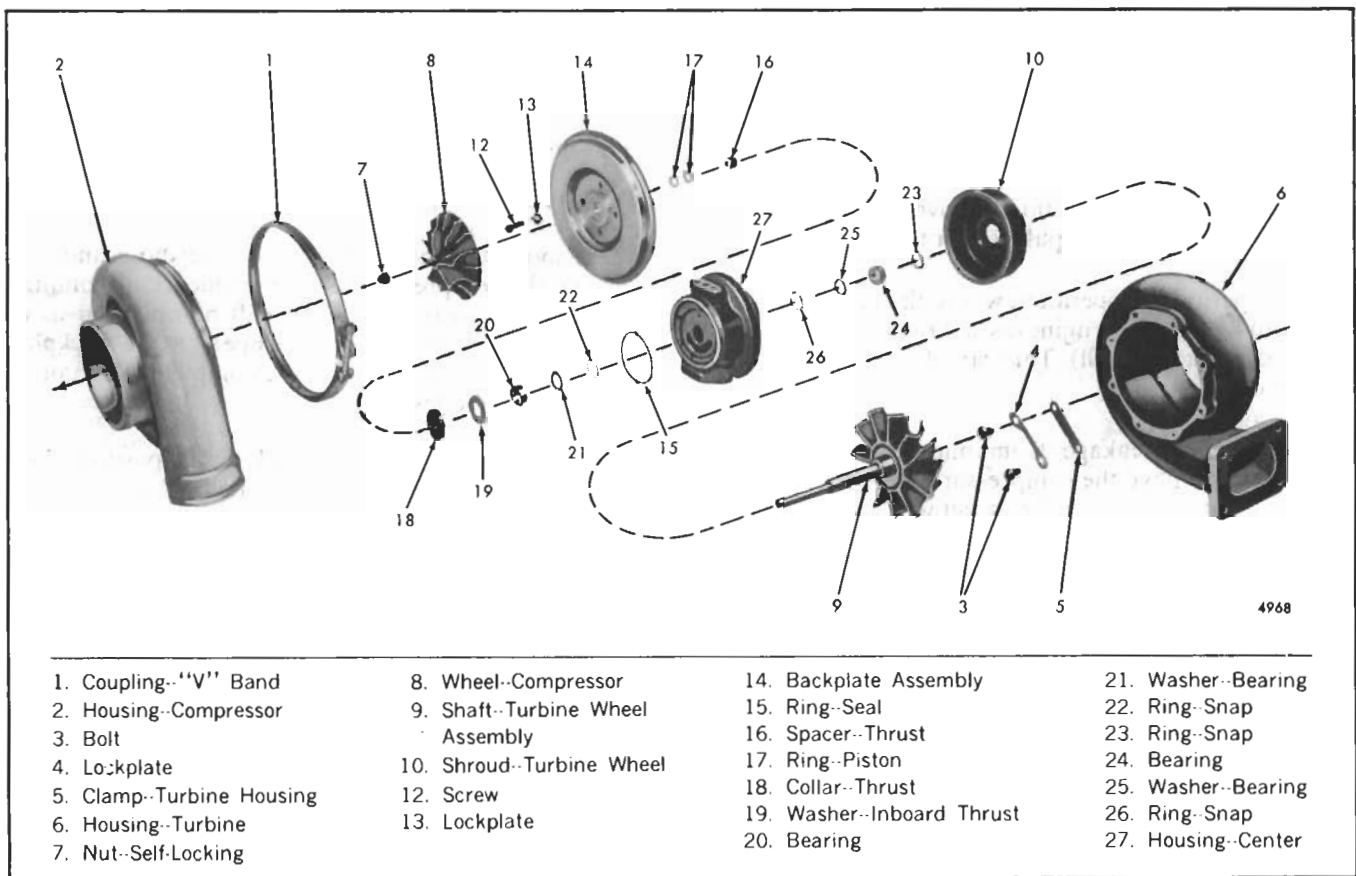
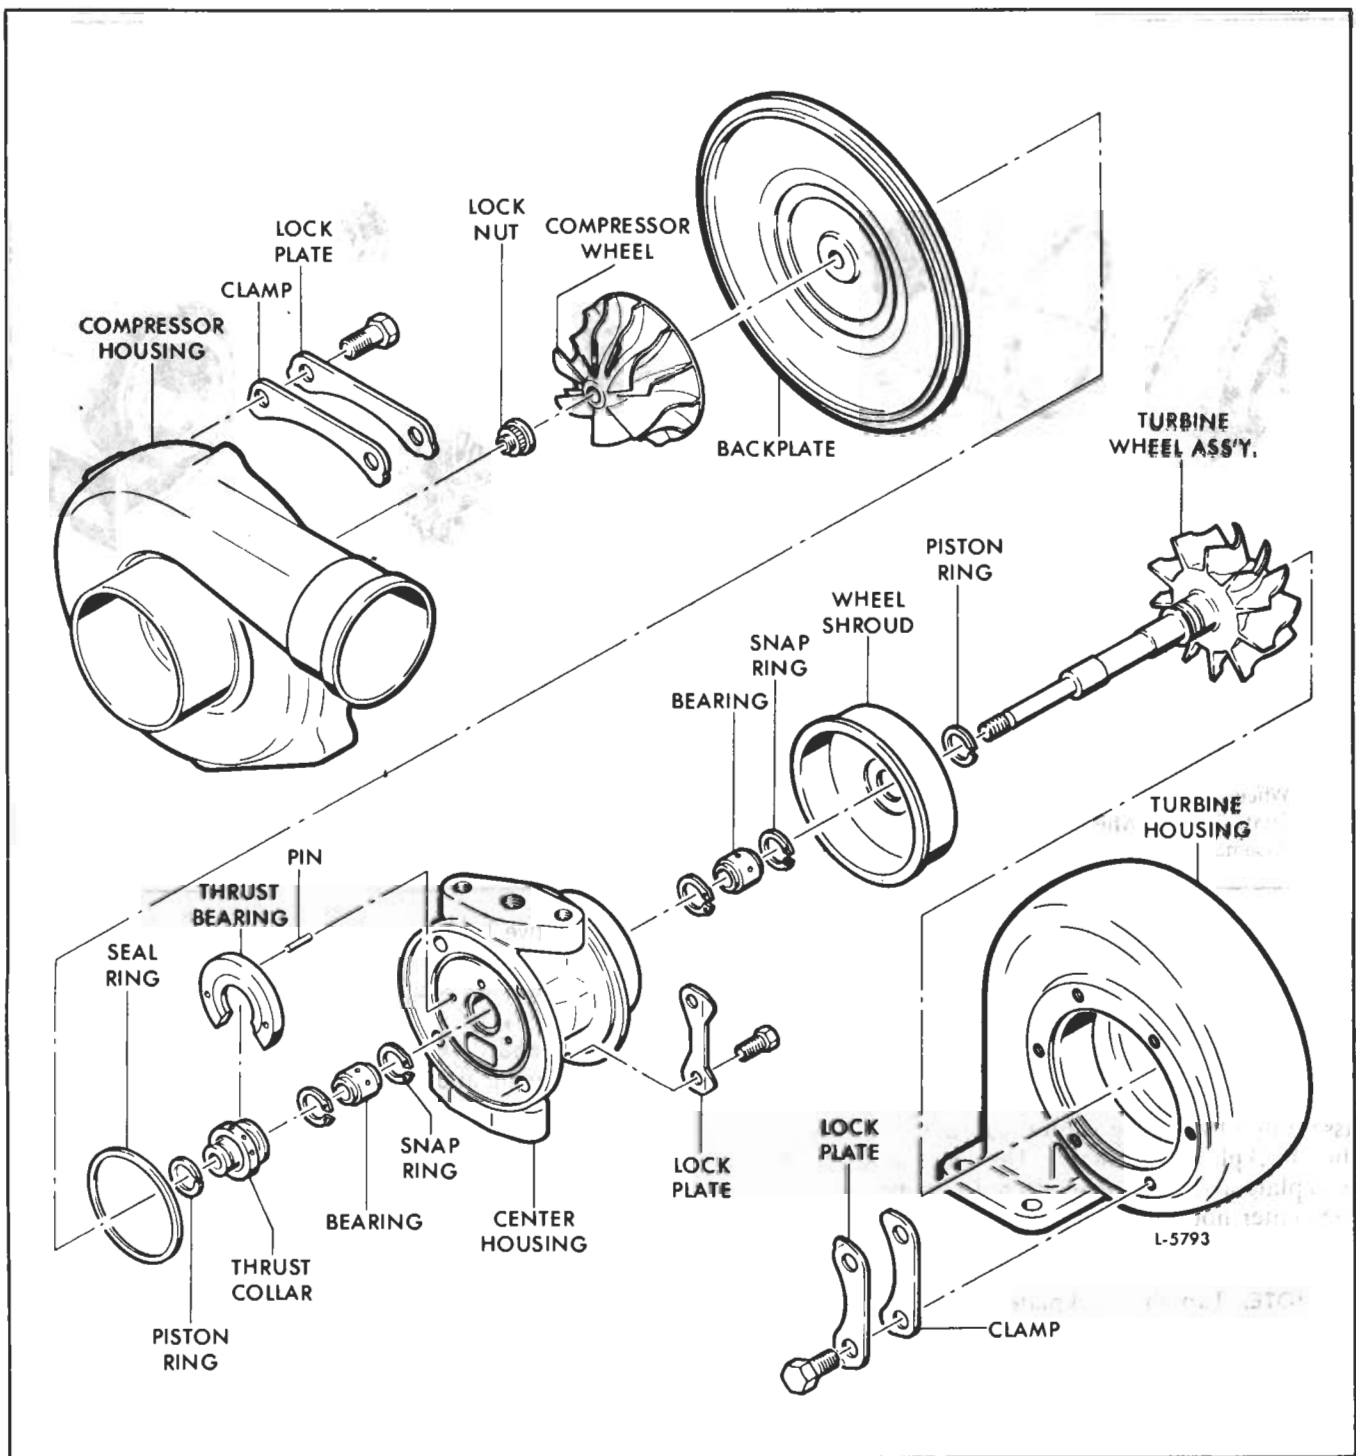

Fig. 6 - T18A40 and T18A90 Turbocharger Details and Relative Location of Parts
Fig. 8 - T04B Turbocharger Details and Relative Location of Parts
1. Refer to Fig. 6 or 7 and loosen the "V" band coupling (1) securing the compressor housing (2) to the backplate assembly (14) and remove the compressor housing and "V" band. Refer to Fig. 8 and remove the bolts and lockplates securing the compressor housing to the backplate assembly and remove the compressor housing.
Refer to Figs. 6 and 7 for parts orientation and proceed as follows:
Refer to Fig. 8 for parts orientation and proceed as follows: